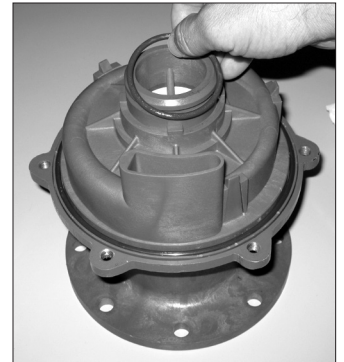

Figure 39
10. If the inner volute o-ring was removed previously, lubricate the inner volute o-ring (item 5) with a chemically compatible lubricant, and install it in the groove on the round suction nozzle in the center of the inner volute. See figure 39.